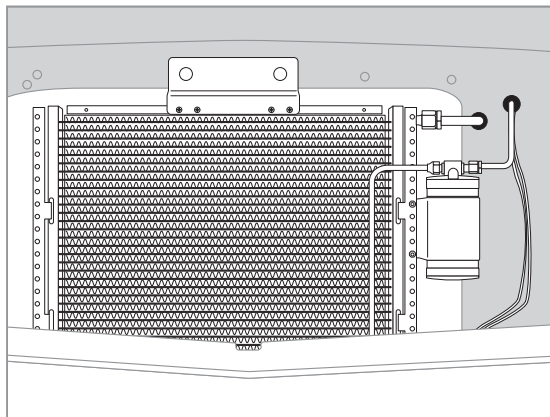

FIGURE 37
**STEP EIGHT:** Place the condenser/drier unit into place, locating it so that the holes in the condenser brackets align with the holes in the core support used to attach the hood latch (it will rest on the lower radiator core brace, see figure 37).